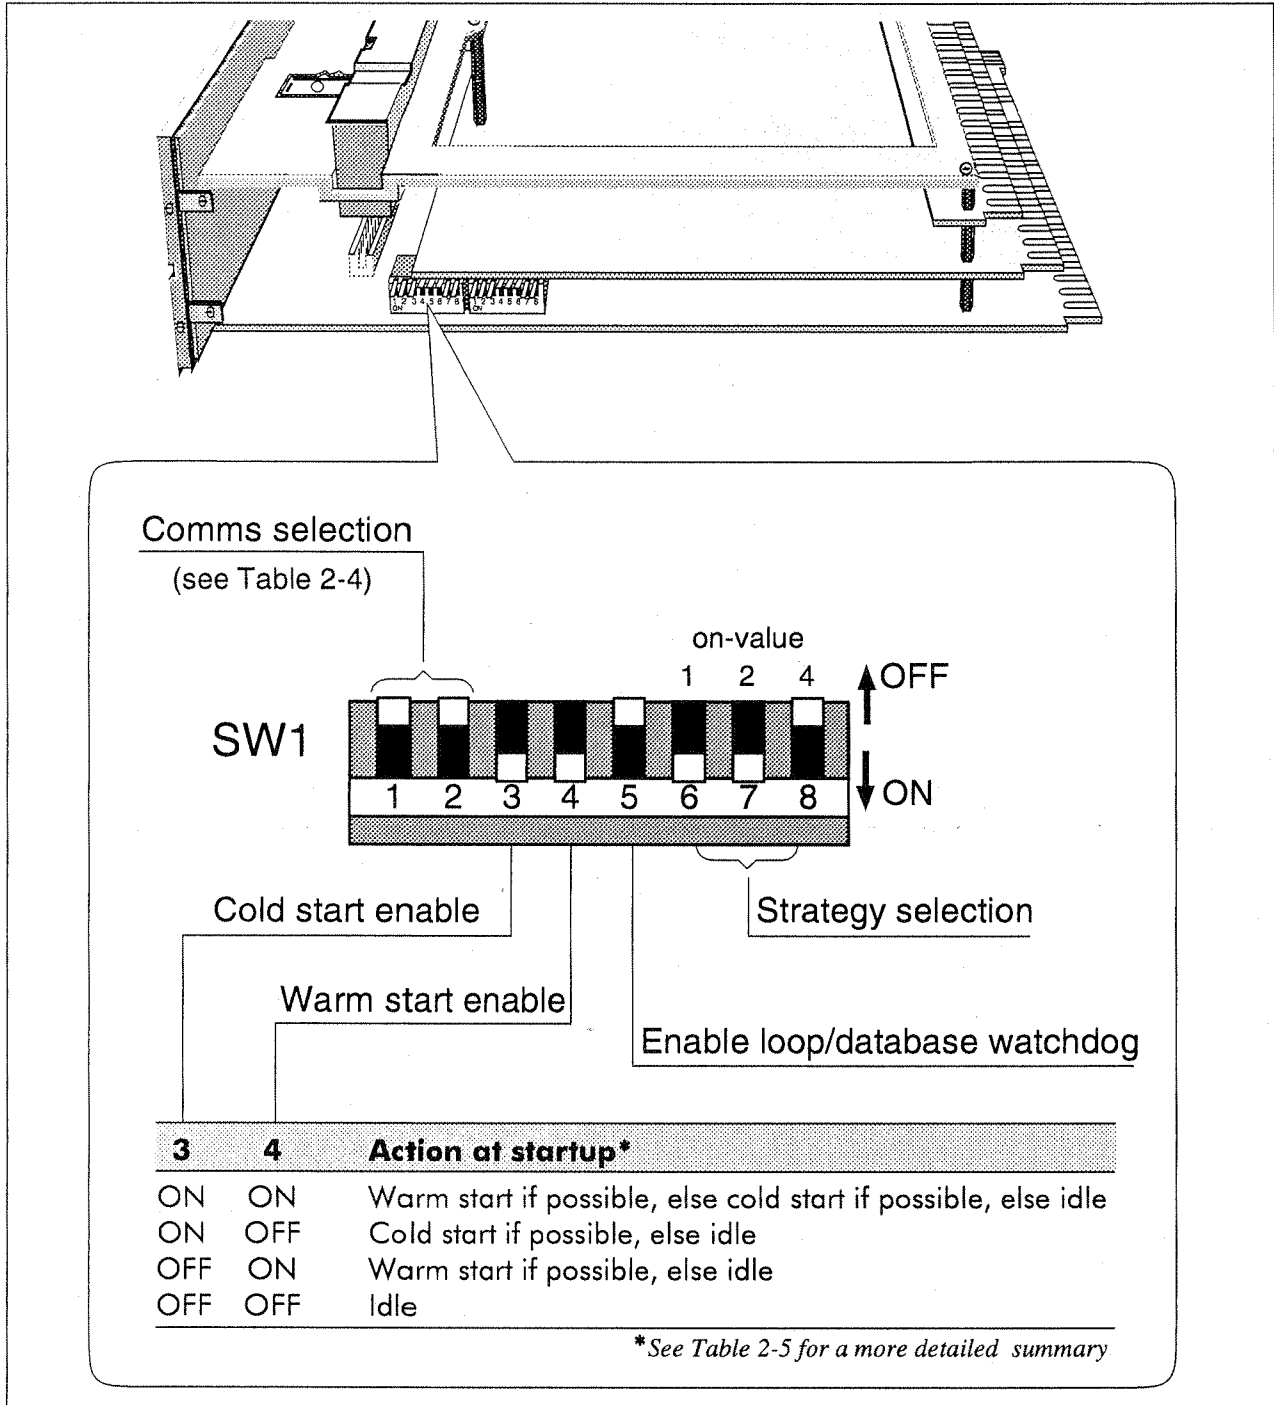

Figure 2-12 SW1 location and functions
Figure 2-12 shows the location and functions of the eight switches in DIL switchbank 1.
- Switches 6, 7, and 8 select the number of a preconfigured fixed-function strategy to be loaded to RAM and if possible run in the T640. The strategy selected is the sum of the 'values' of the three switches (OFF = 0, ON = 'value' as shown in Figure 2-12). E.g. strategy #3 has been selected in the figure. Setting these three switches all OFF prevents any standard strategy being loaded. Running standard strategies is explained in Chapter 5, *Fixed function strategies*.
The location of SW1 was shown in Figure 2-12, and the functions of switches 3 and 4 briefly summarised. Table 2-5 below provides more detail on the effect of the four possible switch setting combinations.